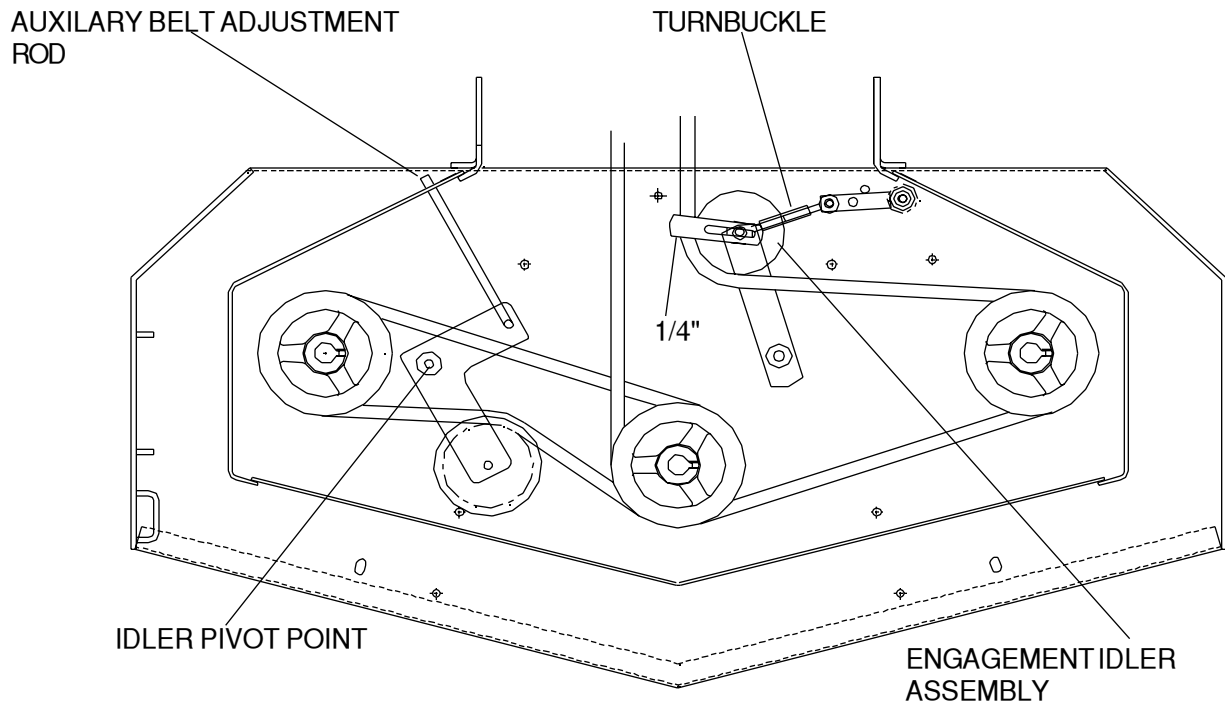

Figure 5
5. To increase belt tension rotate turnbuckle toward the rear of the mower until desired tension is gained. Do not over tighten belts, too much tension will reduce belt and spindle bearing life. (see fig. 5)
2. To adjust tension on the auxiliary belt rotate nut on linkage that is attached to deck strap located on the right side of cutter deck. (see fig. 5)